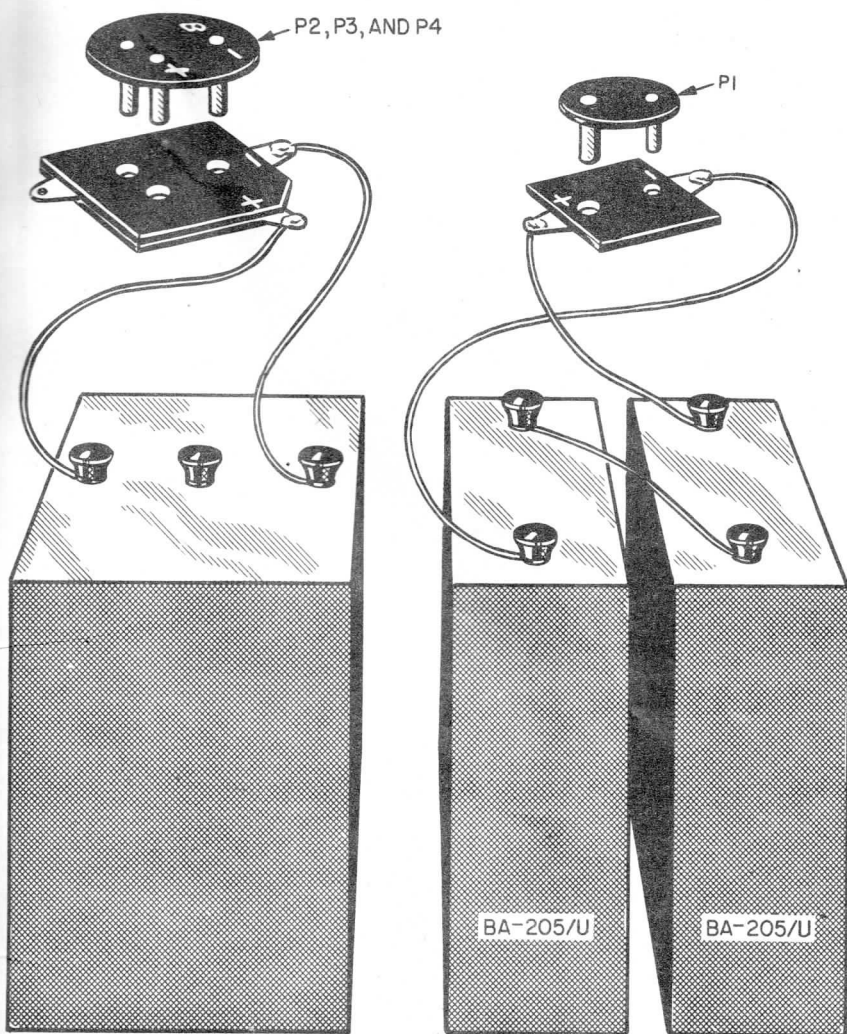

Figure 9. Detector Set AN/PRS-1, alternate battery installation.
**6. ALTERNATE BATTERY INSTALLATION (fig. 9).** When Batteries BA-63 and BA-203/U are not available, substitute Batteries BA-53 and BA-205/U, respectively. Battery adapters must be improvised before alternate battery installation can be made.
*c.* Connect the leads from the A battery adapter to the terminals of two Batteries BA-205/U and connect a short piece of wire between the positive terminal of one Battery BA-205/U and the negative terminal of the other. **Observe the polarity shown in figure 9.**
*d.* Connect the leads from each B battery adapter to the terminals of the corresponding Battery BA-53. **Observe the polarity shown in figure 9.**